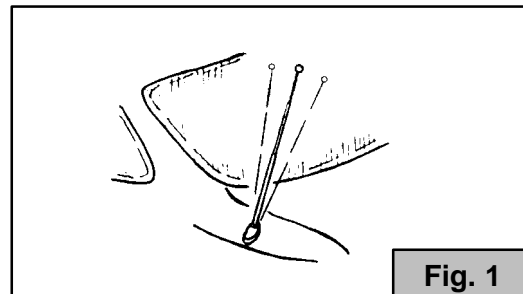

Fig. 1
1. Tune the radio to a strong, static-free AM station and slowly move the tip of the antenna mast forward and back approximately 2 inches (Fig. 1). If static noise is not heard, go to Step 2. If static noise is heard during antenna movement, replace the antenna mast and go to Step 3.